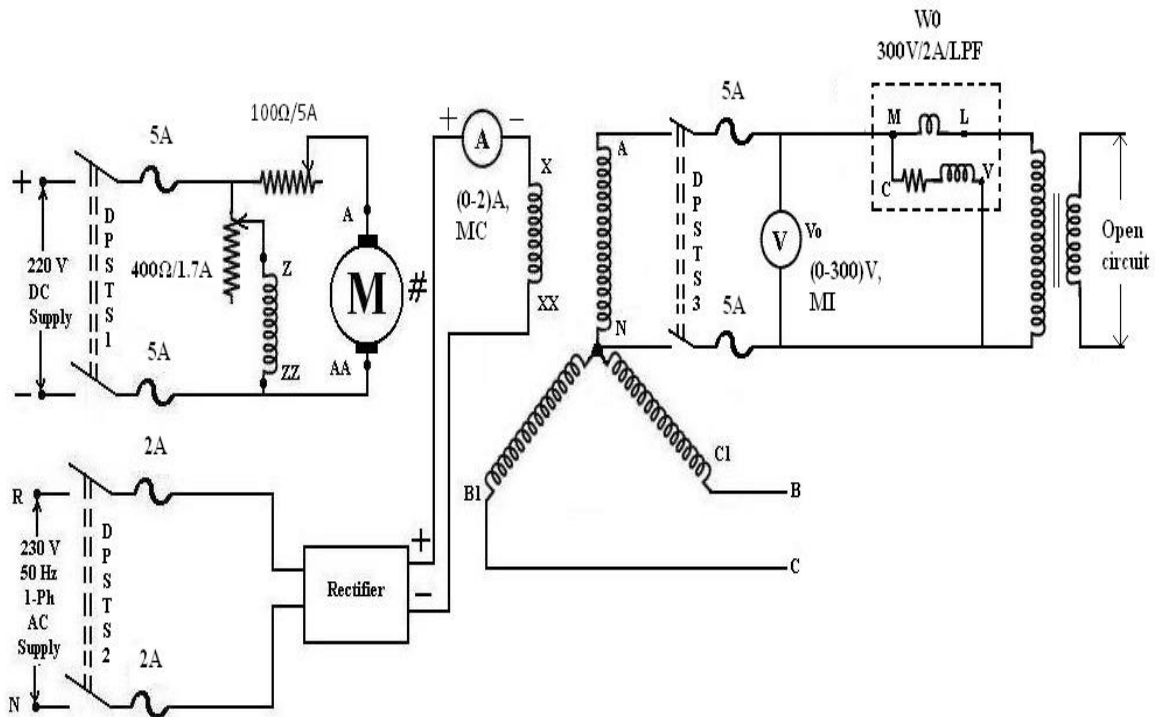

Fig 4.1: Circuit diagram for separation of core losses
1. Make the connections as per the fig 4.1.